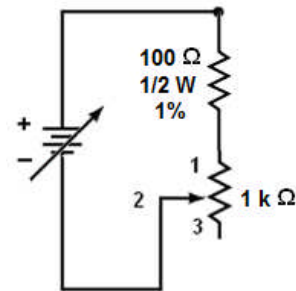

Fig. 2-1 100Ω Potentiometer
4. Without disturbing the potentiometer setting, connect the circuit (Fig. 2-1).